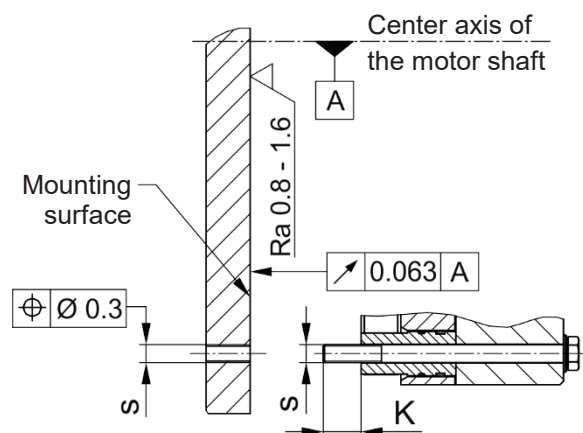

Fig. 5
- ☐ On hub designs the fit tolerances of the hub bore (10) and the shaft must be selected so that the hub toothing (10) is not widened. Widening of the toothing leads to the rotor (3) jamming on the hub (10) and therefore to brake malfunctions. Recommended hub – shaft tolerance H7/k6. If the hub (10) is heated for better joining, the O-ring (11) must be removed beforehand and re-mounted after hub installation. The max. permitted joining temperature of 150 °C must not be exceeded.
- ☐ Dimensioning of the key connection according to the requirements shaft diameter, transmittable torque and operating conditions must be carried out. For this, the corresponding user data must be known or the customer must carry out the dimensioning according to the valid calculation basis DIN 6892. For the calculation, a hub quality of $Re = 300 \text{ N/mm}^2$ should be used. The length of the key must lie over the entire hub (10).
- ☐ The mounting dimensions and the tapped holes s with depth $K + 2 \text{ mm}$ (K = screw projection) must be provided according to the Catalogue or the applicable assembly drawing (Fig. 5).